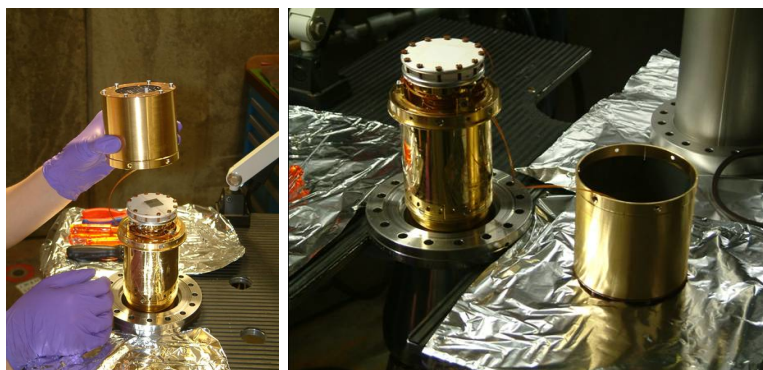

Figure 3.4: Removing the radiation shield from the cryostat.
1. Remove the screws attaching the radiation shield to the cryostat and remove the shield carefully (Figs. 3.4). Put all screws in the designated tray and the shield in a safe and clean place, e.g. on a clean aluminium foil.